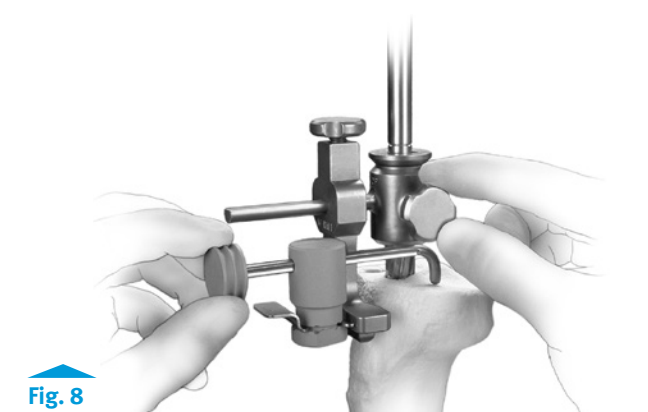

Fig. 8
- For a primary case, insert the 10mm tab of the Tibial Depth Resection Gauge into the cutting slot and check the depth with the probe at the lowest point on the condyle (Fig. 8).